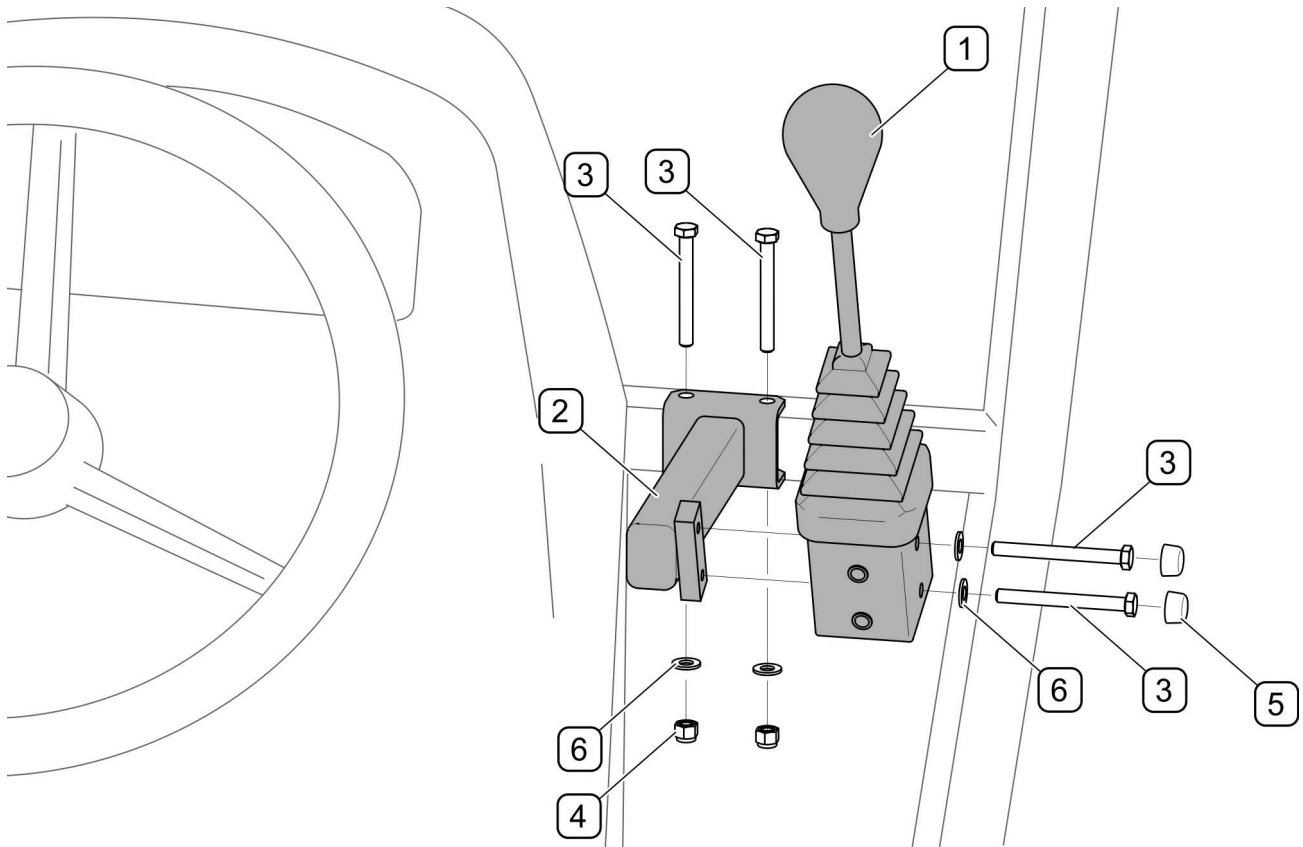

FIGURE 4.7. Installation of the control lever in the tractor cabin (PRONAR 6170)
Install the bracket (2) (FIGURE 4.7) to the horizontal beam in the cab on the right side of the console. Then mount the lever (1) for loader control to the bracket. Place the sticker showing the loader control diagram in a visible place, near the control lever.